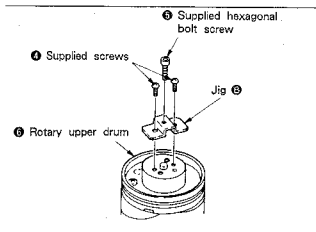

Fig. 7-46.
- 4) Mount the supplied jig ⑤ (Ref. No. J-10) on the dynamic damper mounting hole with the two supplied screws ④, and mount the supplied hexagonal bolt screw ⑥ on supplied jig ⑤, then remove the rotary upper drum ⑦. (See Fig. 7-46.)